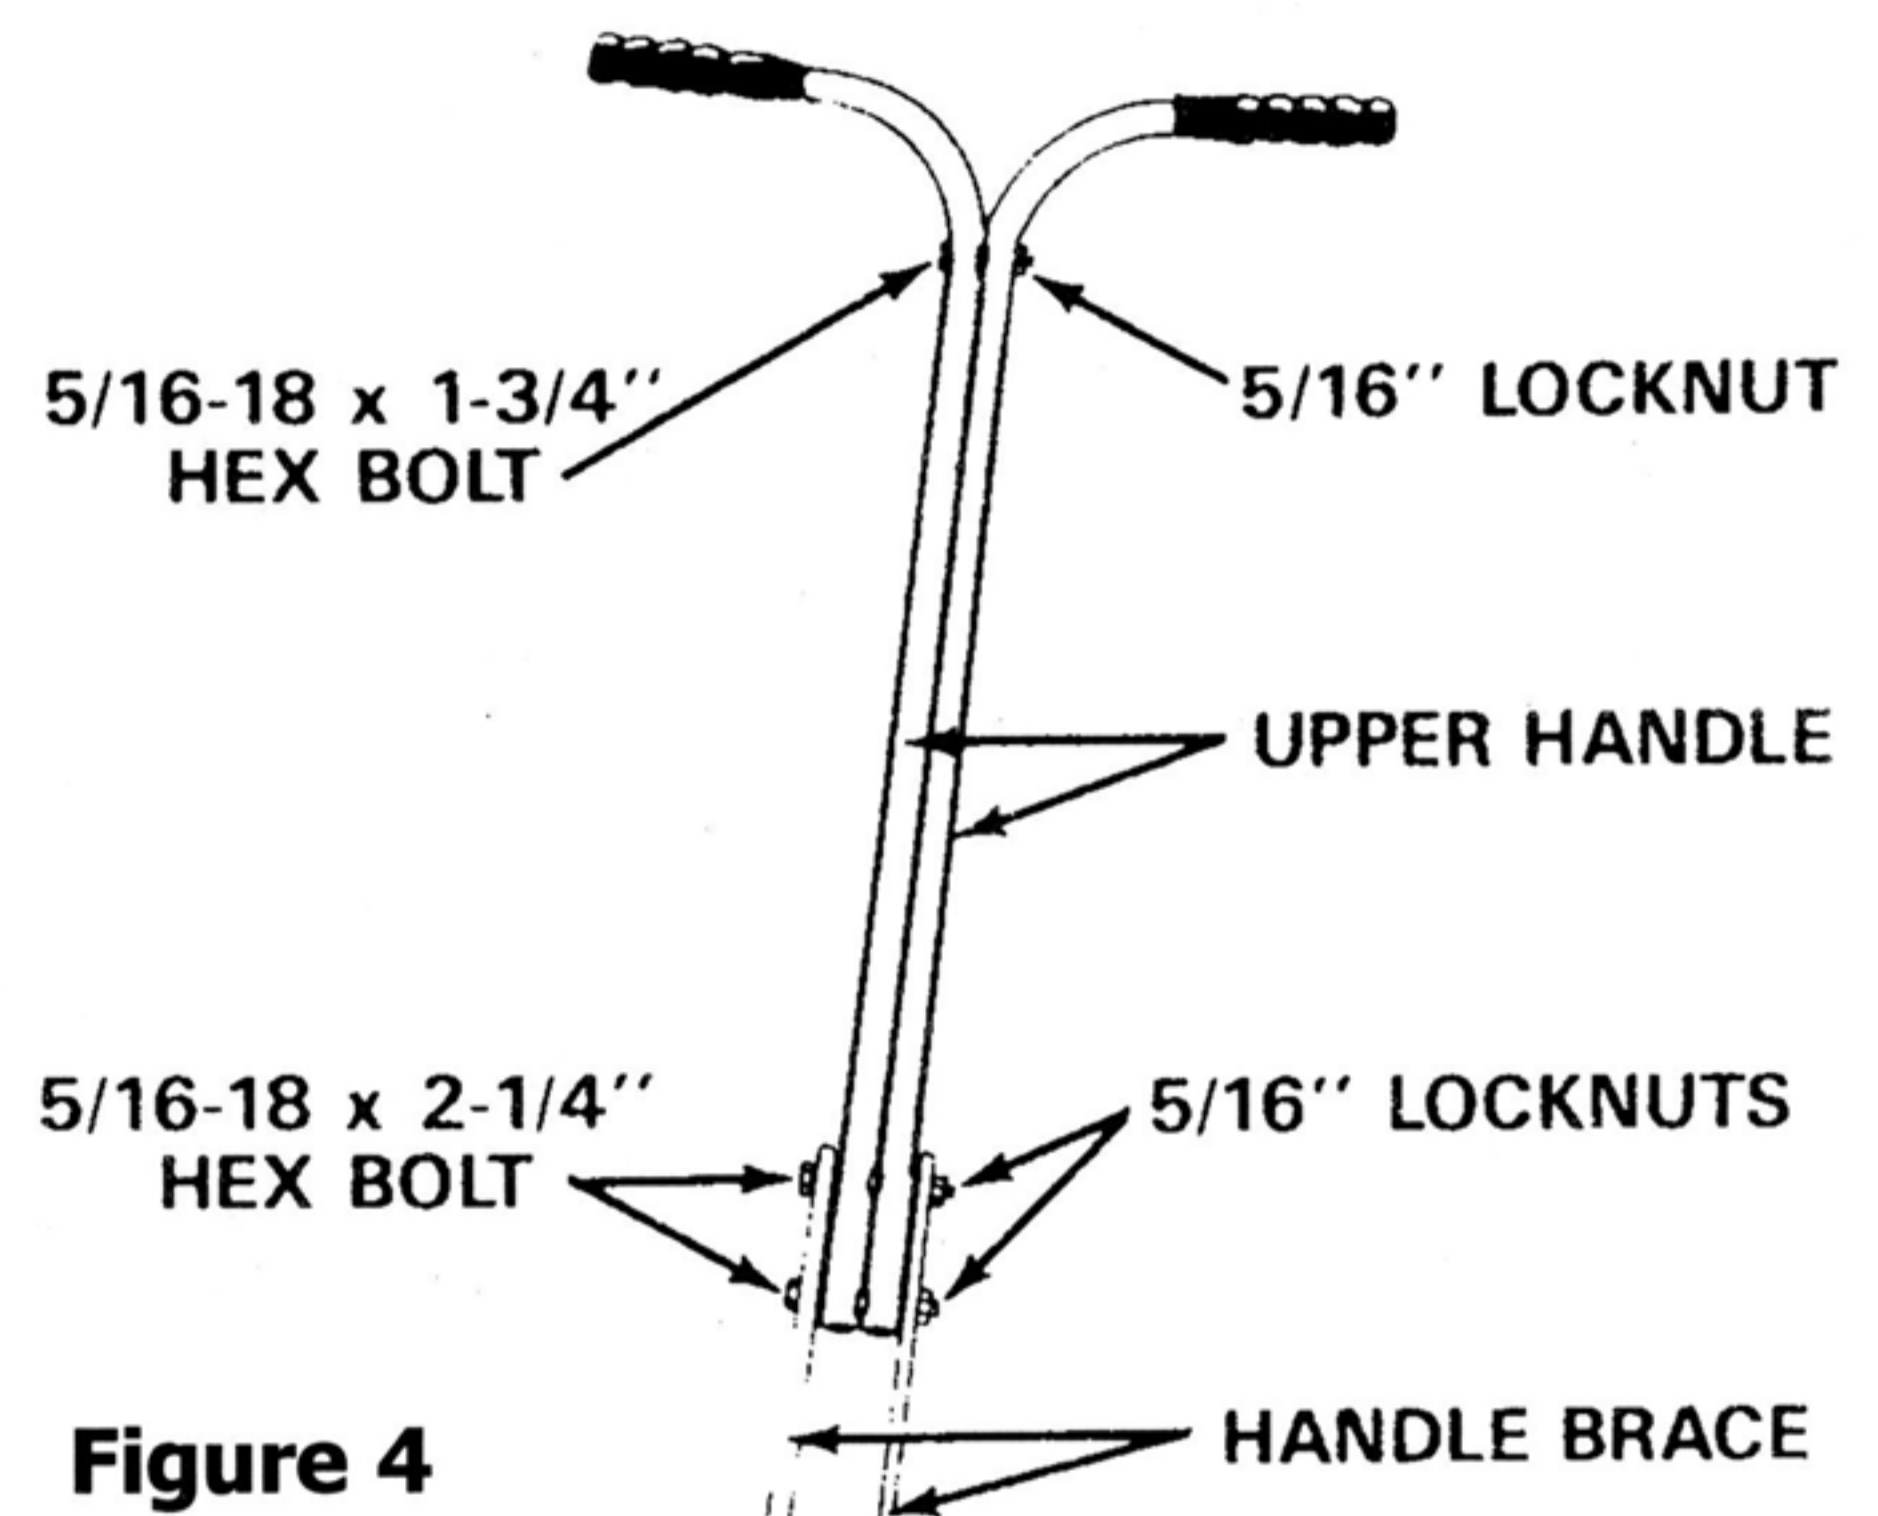

Figure 4
3. Attach the two upper handles to the handle braces with two 5/16-18 x 2 1/4 inch bolts as shown in figure 4. Hand tighten the nuts.